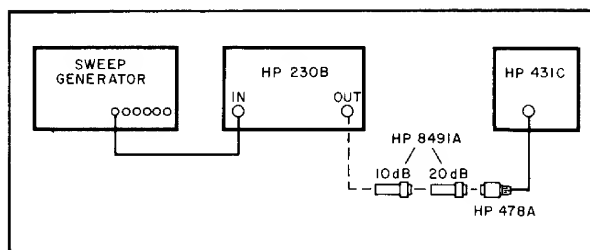

Figure 5-4. 230B Gain Check Setup
- Connect equipment as shown in Figure 5-4.